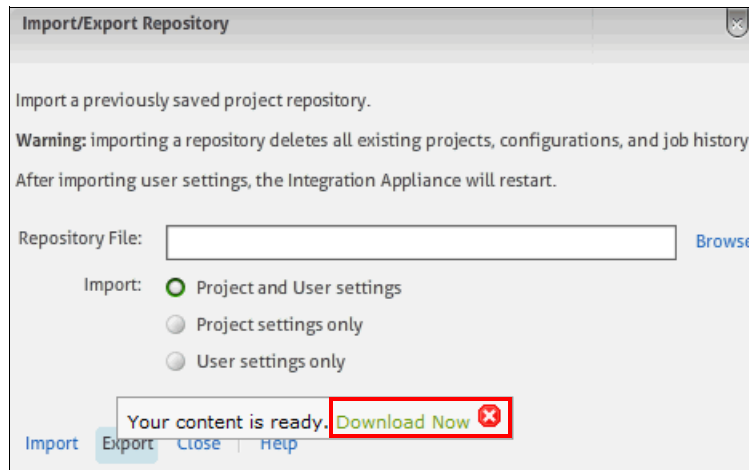

Figure 6-4 Export repository
3. Click **Export**, and a message displays, as shown in Figure 6-4. In this message, click **Download Now**.